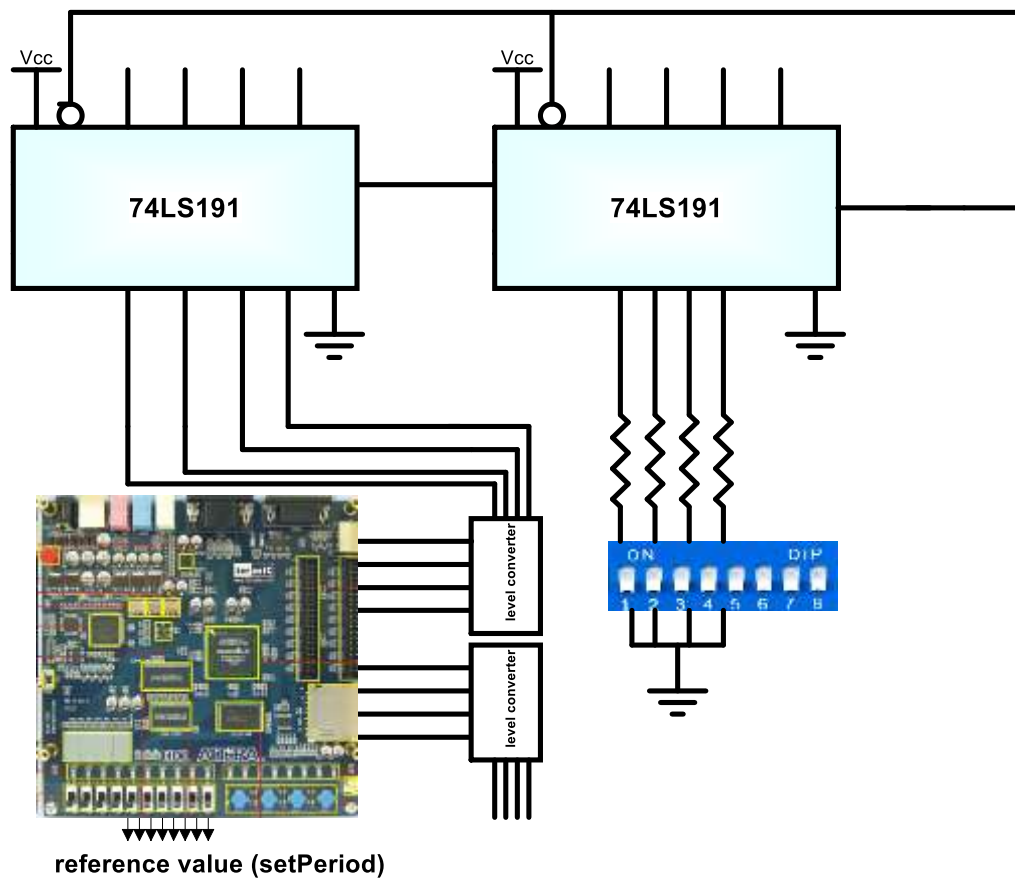

Fig 3: Connections of the design
Consider two frequencies 1.25 MHz and 200 KHz as an example. The parallel load for each of them is shown in the table. The four most significant bits can be fixed on a breadboard with a dip switch. The connections for the load inputs are shown in Fig 3.
- 1- Change the port declaration of your Verilog code in order to meet the connection layout of Fig 3.